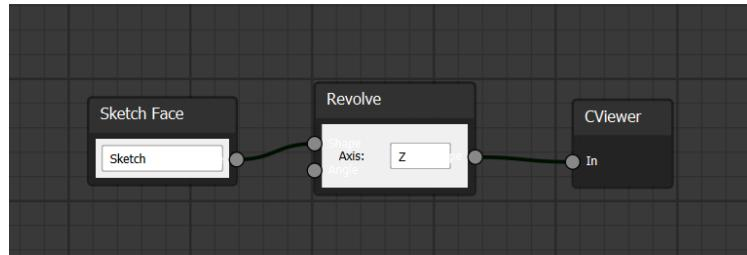

Figure 15:
- + Make sketch in FreeCAD environment first then in Node window make workflow like fig.15,. Node WB will link to sketch do that revolve job